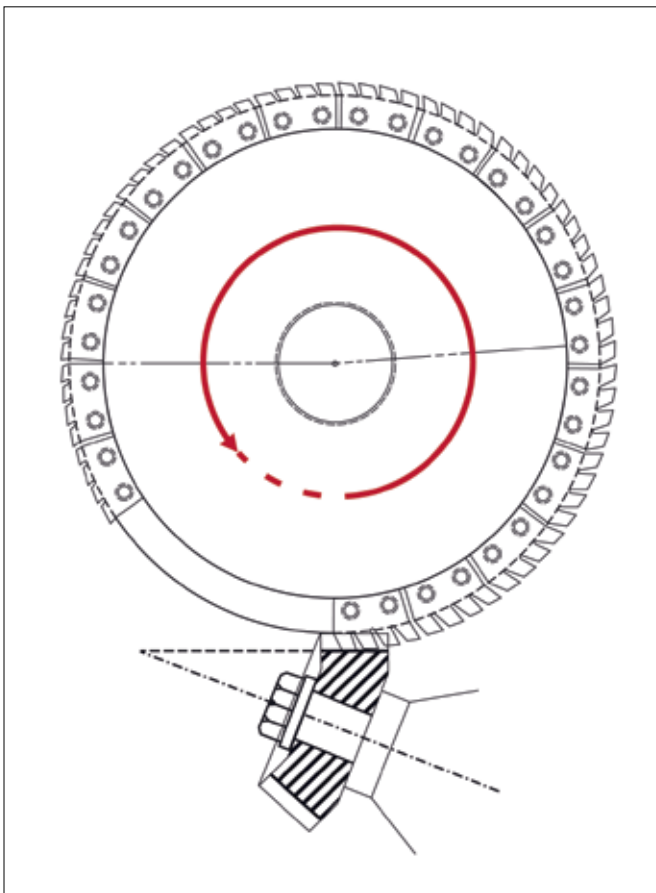

Figure 1—Revacycle broaching process.
The Revacycle broaching process is used especially for the production of differential bevel gears. The tool is a circular broaching tool with a large number of differently profiled form cutter blades at the circumference. A first circular segment consists of roughing blades, with a slight outward offset to one another, followed by segments with finishing blades, leading to a gap in which the workpiece is turned by one pitch (Fig. 1). One tooth gap is produced for each revolution of the tool.
gears. Due to this load sharing over tooth pairs in contact (Fig. 1), the contact path and contact ratio are considerably different.
Figure 1—(a) load sharing and (b) root stresses as function of roll angle for a steel pinion and a steel gear (black circles), a glass-fiber (GF) reinforced-plastic gear (red circles), an unfilled plastic gear (blue circles) and an unfilled plastic gear at elevated temperature (green circles). The dashed black line is the load sharing according to (steel) theory (ISO 6336) and the dotted black line represents the pitch point.